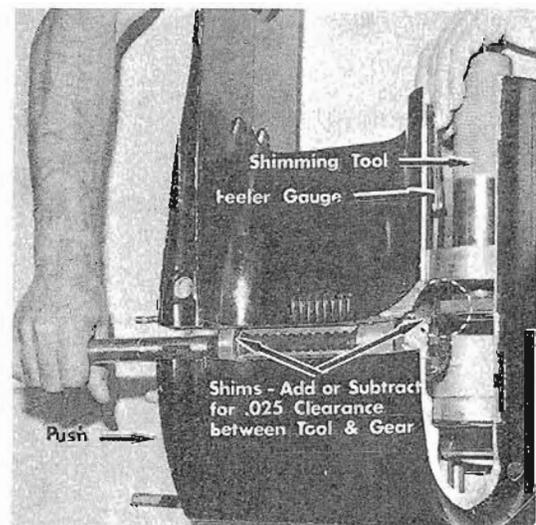

Figure 2. Shimming Procedure
3. Check for .025" (.635mm) between gear and tool while applying inward pressure on drive shaft to seat its roller bearing. (Figure 2)